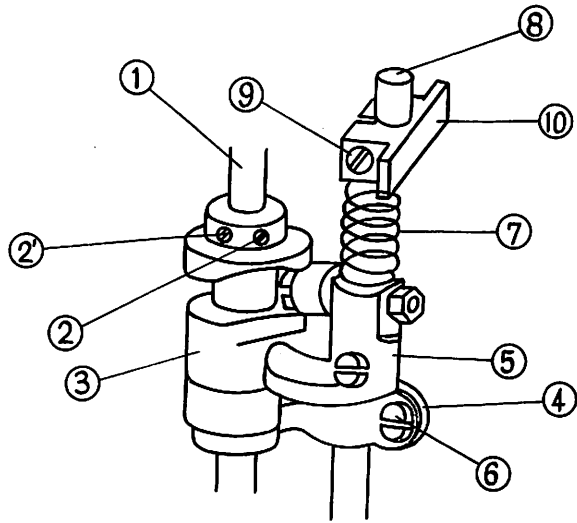

FIG. 6
When fixing Loper Drive Cam ③, adjust as follows; (Refer Fig. 6)
- i) Put the screw ② to the counter cut on Main Shaft ①.
- ii) Adjust Arm (B) ④, so that Loper Cam ③ and Arm (A) ⑤ moves smoothly. After adjusting, fix screw ⑥.
- iii) The clearance between Loper Cam ③ and Arm ⑤ is effected by Spring ⑦. Loosen screw ⑨ and turn Spring Receiver ⑧ to tighten Spring ⑦, or to loosen it to have pressure. After adjusting, tighten screw ⑨ to fix Spring Receiver ⑧.
- ① Main Shaft
- ② Screw
- ③ Looper Drive Cam
- ④ Arm (B)
- ⑤ Arm (A)
- ⑥ Screw
- ⑦ Presser Bar Spring